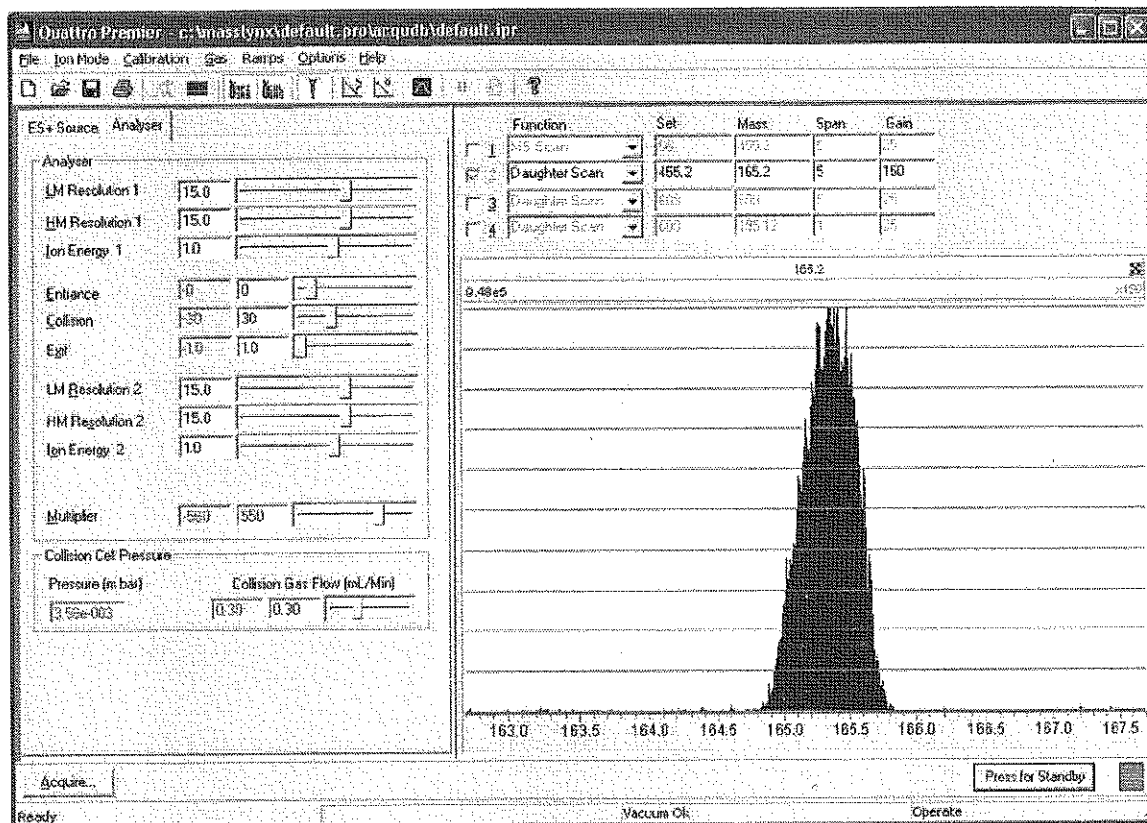

Figure 2-7 Tune Window with a Daughter Ion Peak
1. In the Tune window, select the Function 2 box. The Function 1 box may now be cleared (Figure 2-7).
12. In the Tune window, determine the  $m/z$  value of the daughter ion peak's center to one decimal place (see Figure 2-7). Record this value.